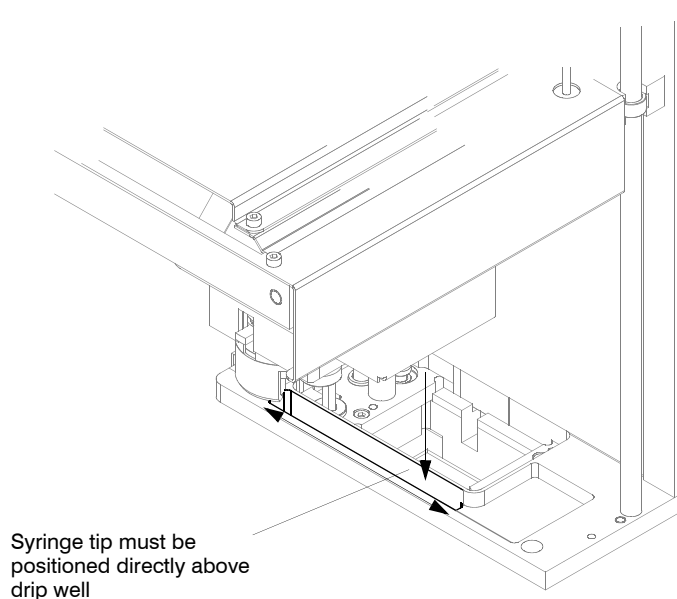

Figure 17.3 Drop Position of Dispenser Head
- ❑ Dispenser head in uppermost position in drop position (Figure 17.3). Move the dispenser head up and down using the height mover tool. Move the dispenser head from left to right by hand.